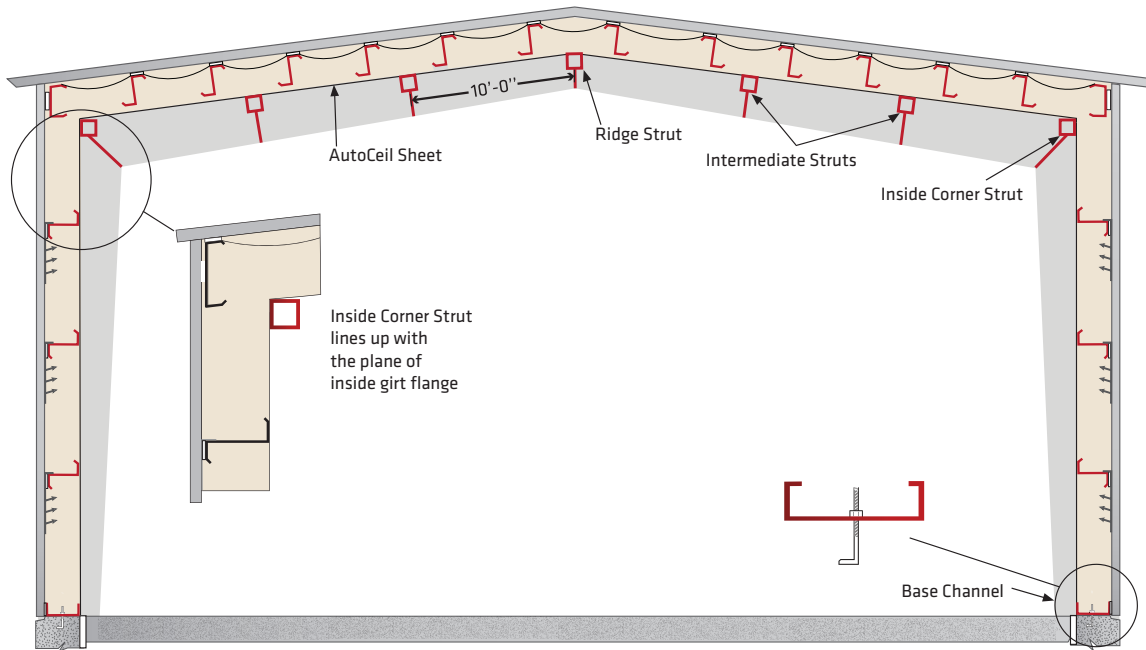

Figure 1
- 1.5 Inside Corner Strut(s) and Ridge Strut - Uniform loads imposed upon the inside eave corner and ridge struts resulting from tensioning of the AutoCeil™ material around the strut at a maximum angle of 90° tensioned to a maximum force of 125 lbs applied per linear feet of strut length. (see Figure 1)
2.9 Inside Corner Strut Placement - Exterior side of strut is to align with the inside steel line of the wall girts. (see Figure 1)
5. Base Channel (see Figure 1)
6. Anchor Bolts (see Figure 1)